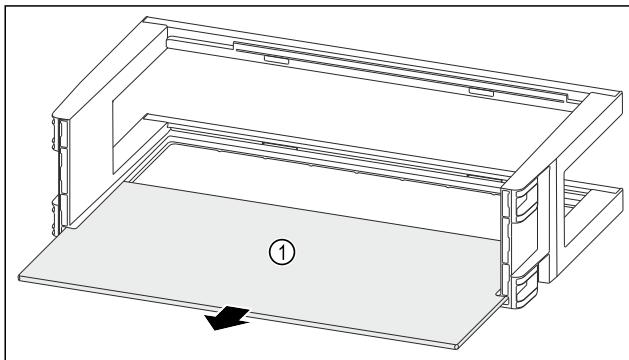

Fig. 120
- Remove the shelf Fig. 120 (1).